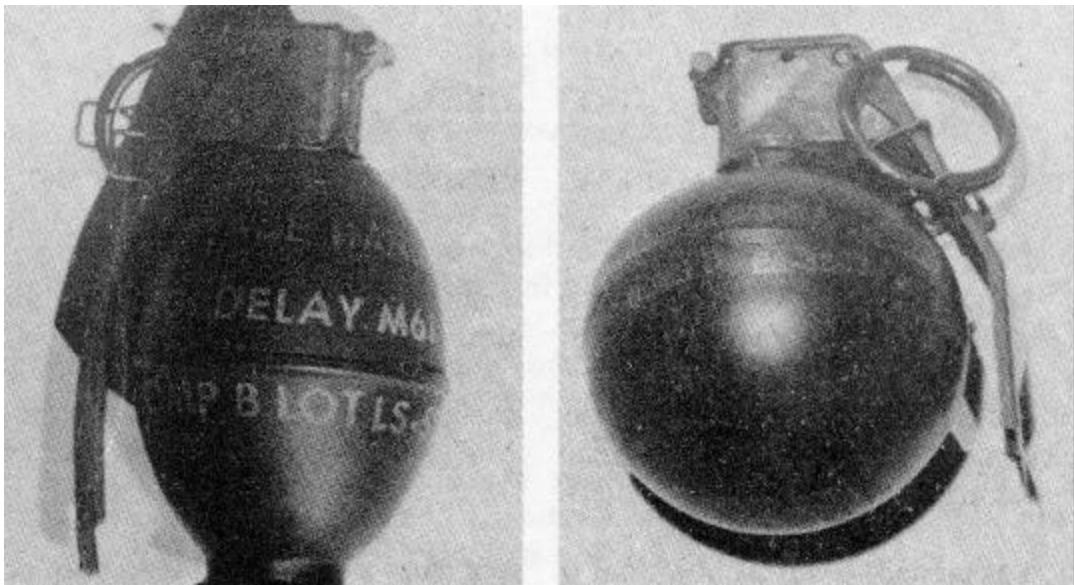

Figure 2-1      Fragmentation Grenades
1. The M61 is egg-shaped and has a flat base. The M67 has a spherical shape. Both grenades are shown in Figure 2-1.